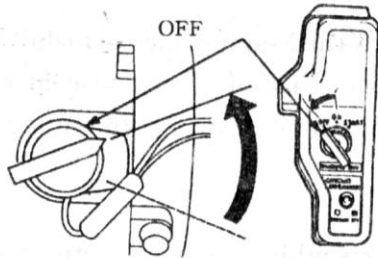

Fig. 20
2. Push the engine switch to “OFF” (Fig. 20).